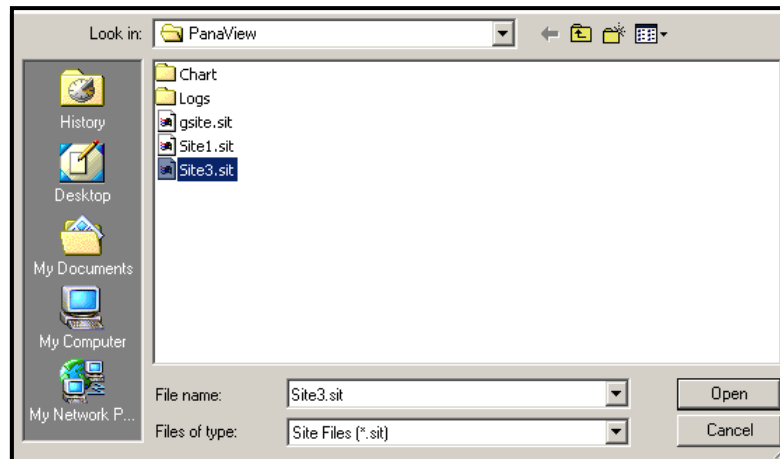

Figure 32: Site File Selection
2. Then click on the *Save Site to Meter* button. A screen opens similar to Figure 32 below.
3. The *Site File Selection* window (*Figure 32 on page 104*) opens. Highlight a site with the desired settings, and click **[Open]**. PanaView saves the site in the meter with the new name and the desired settings.
3. The *Site File Selection* window (shown in *Figure 32* on page 104) opens. Enter the desired site name (now with a .prt suffix) and click **[Save]**. PanaView displays a text version of the site, as shown in *Figure 34* below.